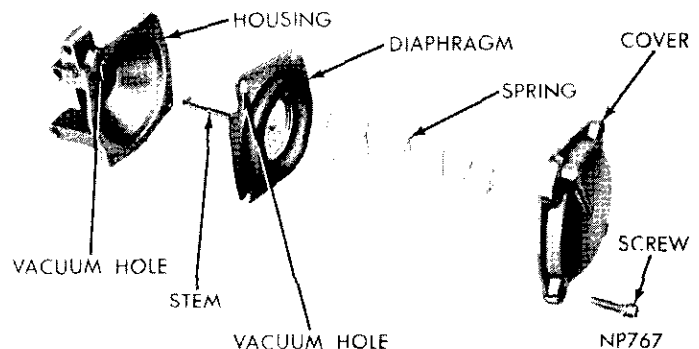

Fig. 15—Secondary Throttle Diaphragm (Exploded View)
(1) Slide diaphragm into housing (Fig. 15).
(2) Position diaphragm so that the vacuum hole in housing is aligned with vacuum hole in diaphragm.
(3) Install diaphragm return spring with coiled end snapped over button in cover.
(4) Support diaphragm stem in order to keep diaphragm flat as spring and cover are installed.
(5) Align vacuum port in cover with port in housing then carefully lower cover. Install attaching screws and tighten securely.
(6) Check diaphragm by pressing in on stem and placing finger over port. Diaphragm should stay in retracted position.
(7) Install a new gasket in vacuum passage recess in diaphragm housing, then install secondary diaphragm on main body of carburetor and at the same time engage stem with secondary stop lever. Install screws and tighten securely.
(8) Install pump lever on stub shaft and secure with "E" clip. Slide spring and locknut between fuel pump lever and pump operating lever. Open throttle valve and install adjusting screw. Tighten 2 or 3 threads to hold. The correct setting of the adjusting screw will be covered under adjustments.